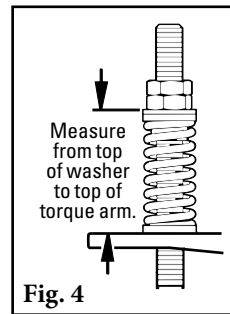

Fig. 4
- 4. Reset the correct blade tension.** Refer to the charts below for the spring length or PSI required for the belt width. For PST lightly pull the pivot arm toward the end of the torque arm slot nearest the pole and turn the adjusting nuts until the required spring length is achieved (Fig. 4). Tighten jam nut.